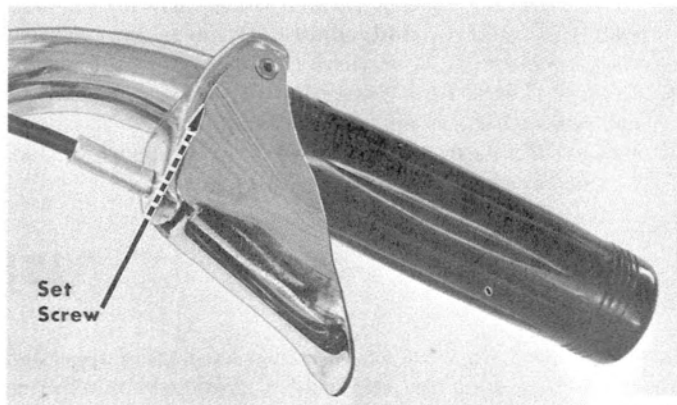

Figure 3. Throttle/Brake Control Lever
8. Loosen set screw in throttle and brake control lever and slide levers against handlebar grips. (Figure 3) Pull grips and levers off handlebar.